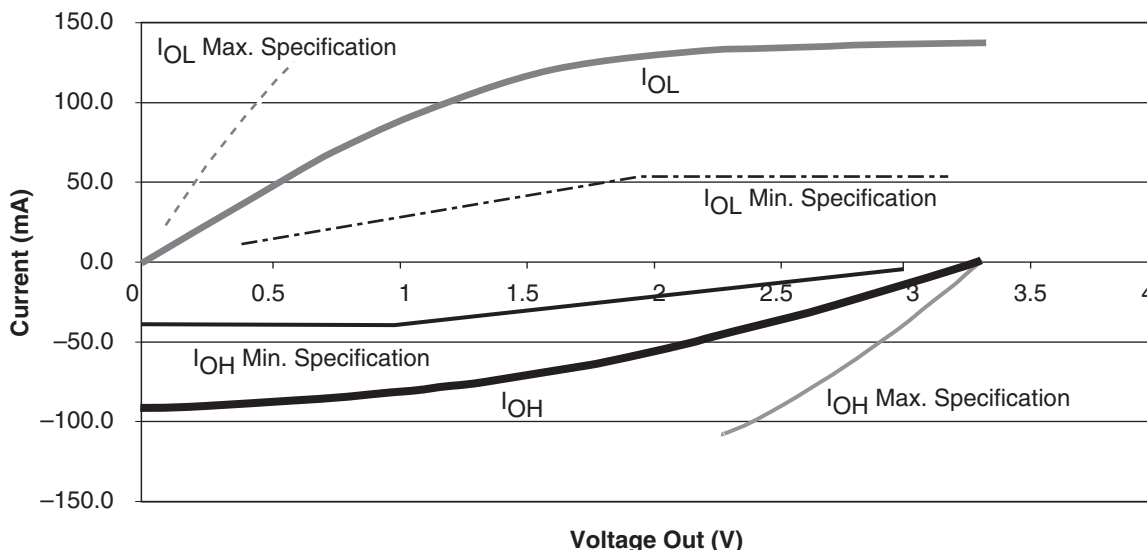

Figure 2-9 • 3.3V PCI V/I Curve for the RTSX-S Family
1. Refer to the V/I curves in Figure 2-9 on page 2-19. Switching current characteristics for REQ# and GNT# are permitted to be one half of that specified here; i.e., half-size output drivers may be used on these signals. This specification does not apply to CLK and RST#, which are system outputs. The "Switching Current High" specification is not relevant to SERR#, INTA#, INTB#, INTC#, and INTD#, which are open drain outputs.
2. Maximum current requirements must be met as drivers pull beyond the last step voltage. Equations defining these maximums (C and D) are provided with the respective curves in Figure 2-9 on page 2-19. The equation defined maximum should be met by the design. In order to facilitate component testing, a maximum current test point is defined for each side of the output driver.